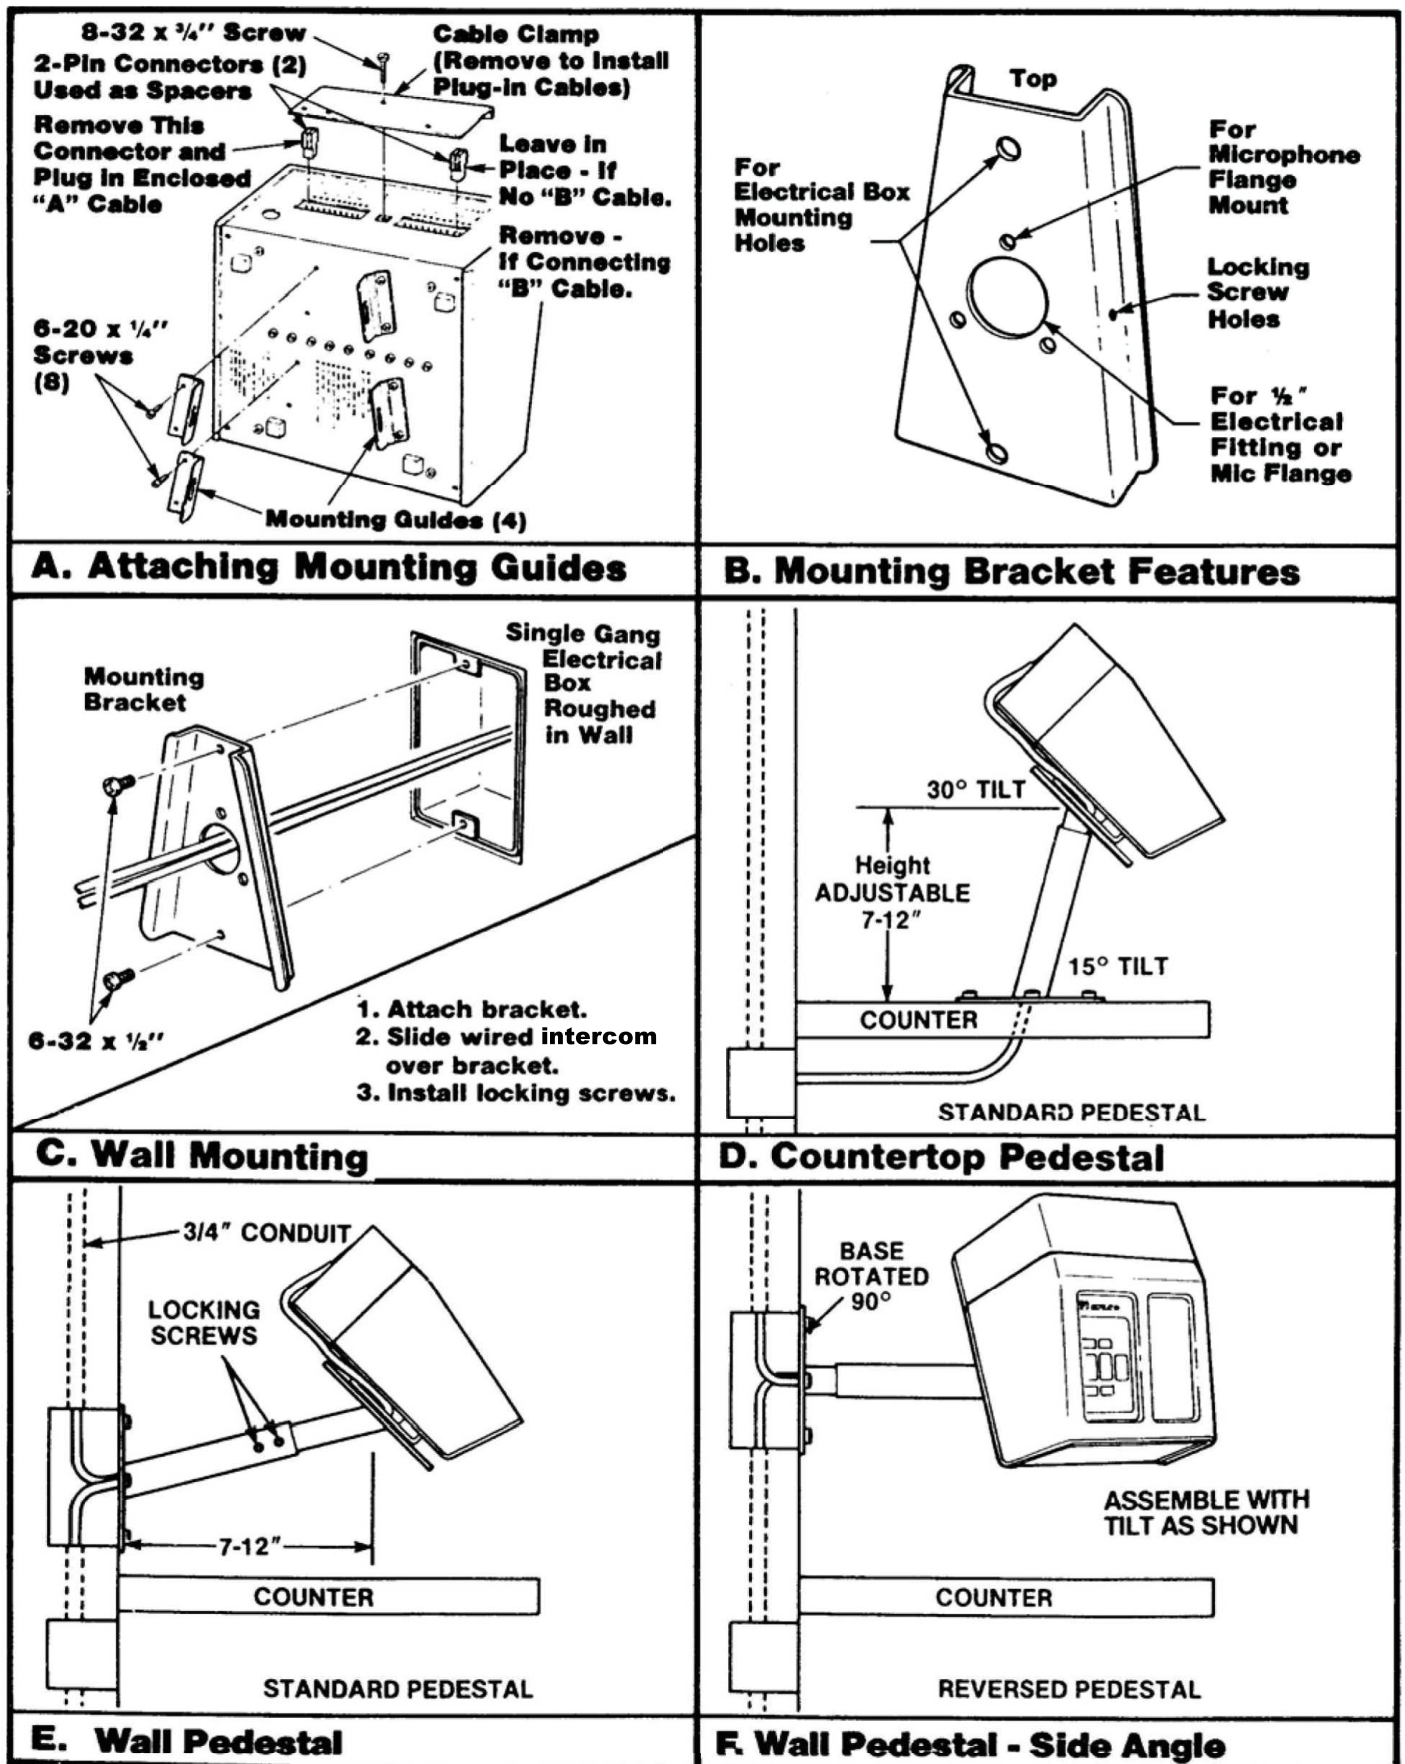

Figure 1. Intercom Mounting Methods
The D-20 has four rubber feet for countertop placement, but permanent surface attachment prevents movement which could break connections. The mounting guide and an “A” mounting bracket enclosed with each unit provide various wall-mounting methods. Using the optional pedestal mount as shown in figures 1-D, 1-E and 1-F (on page 7) places the D-20 closer to the operator for better voice clarity, easier control access and reduced listening volume.
- b. Attach the four mounting guides using eight of the screws provided (Figure 1-A).
4. FINAL D-20 MOUNTING – Lock the D-20 to the "A" bracket by installing the remaining two small screws at each side of the "A" bracket per figure 1-B. Either install the cable clamp or rear wire cover as follows:
- Cable Clamp - Attach to D-20 with screw per Figure 1-A.